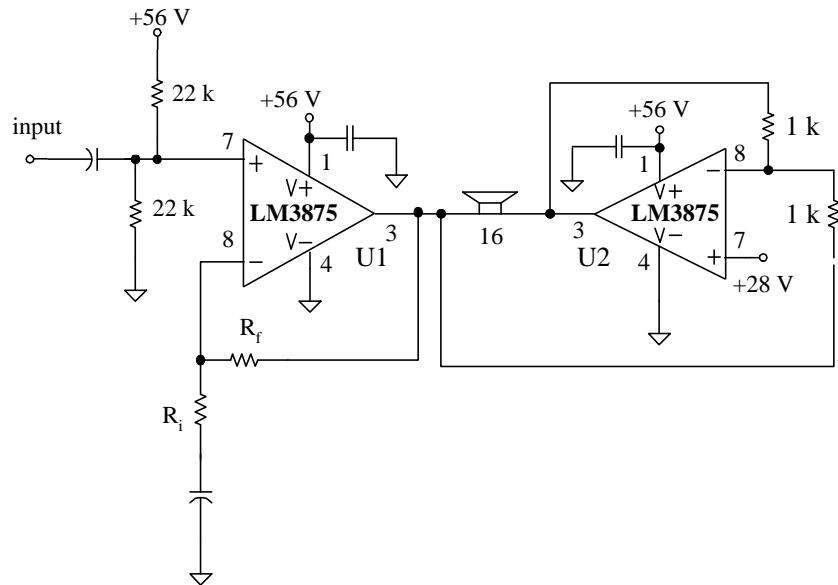

Figure 4-27 Bridge amplifier for Problem 4-22
- 4-22** Complete the design of the bridge amplifier shown in Figure 4-27. Set the gain to allow a $500 \text{ mV}_{\text{rms}}$ signal to produce the maximum output power. Calculate the power delivered to the load and the heat sinks' thermal resistance assuming an ambient temperature of 40°C .